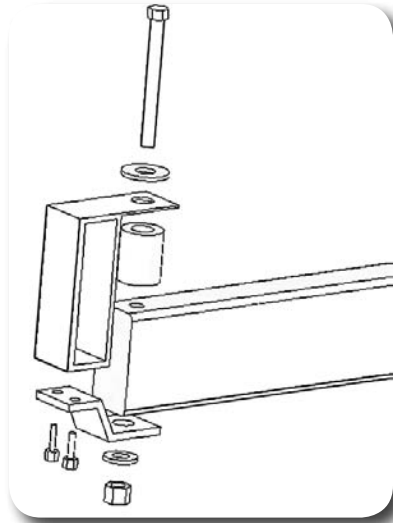

Figure 20
42. Install metal bumper with the provided 2" steel spacers on top of frame mounting position Figure 20.